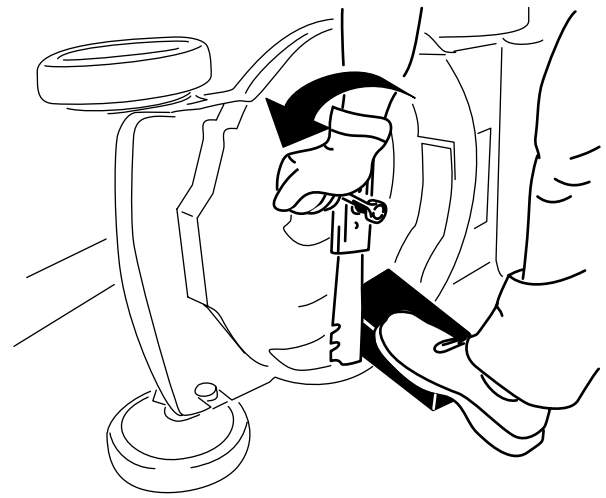

Figure 19
2. Use a block of wood to hold the blade steady (Figure 19).
3. Remove the blade bolt, bracket, and blade; save the bracket and blade bolt (Figure 19).